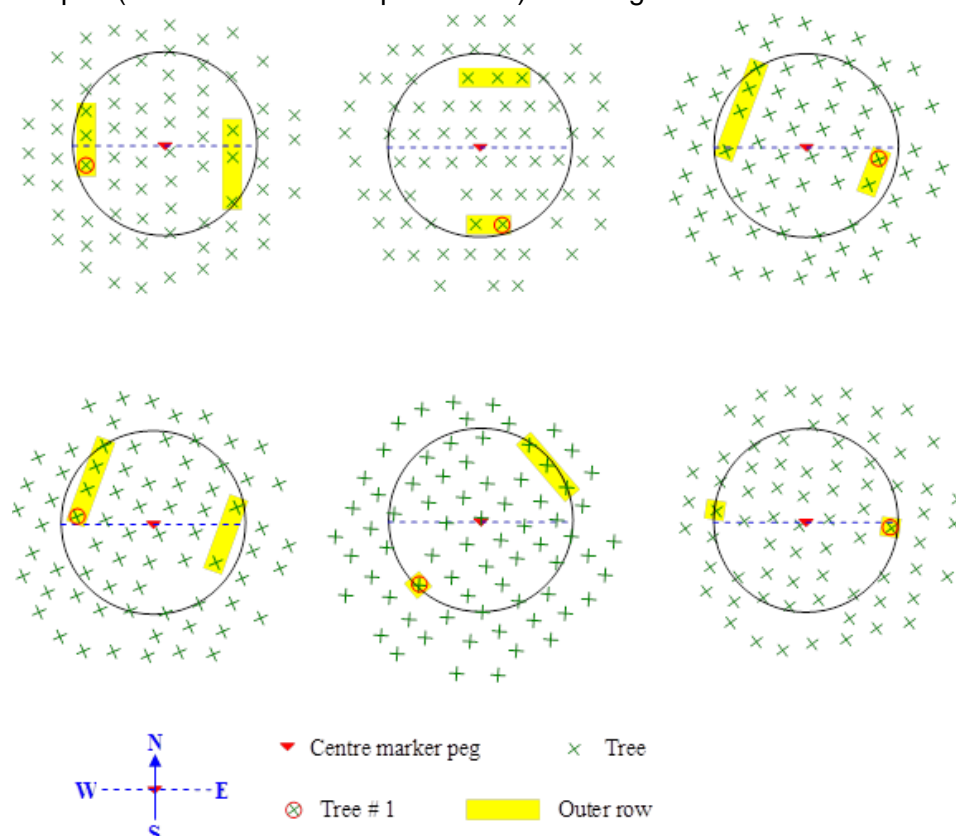

Figure 3. Examples of determining tree number 1.
- Tree number 1 is the southern-most tree that is on the left-hand end of either outer row in the plot (as viewed from the plot centre). See Figure 3